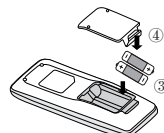

Fig.2
3. Place two 7# (AAA 1.5V) dry batteries, and make sure the position of "+" polar and "-" polar is correct (as shown in Fig 2③).
4. Reinstall the cover (as shown in Fig 2④).